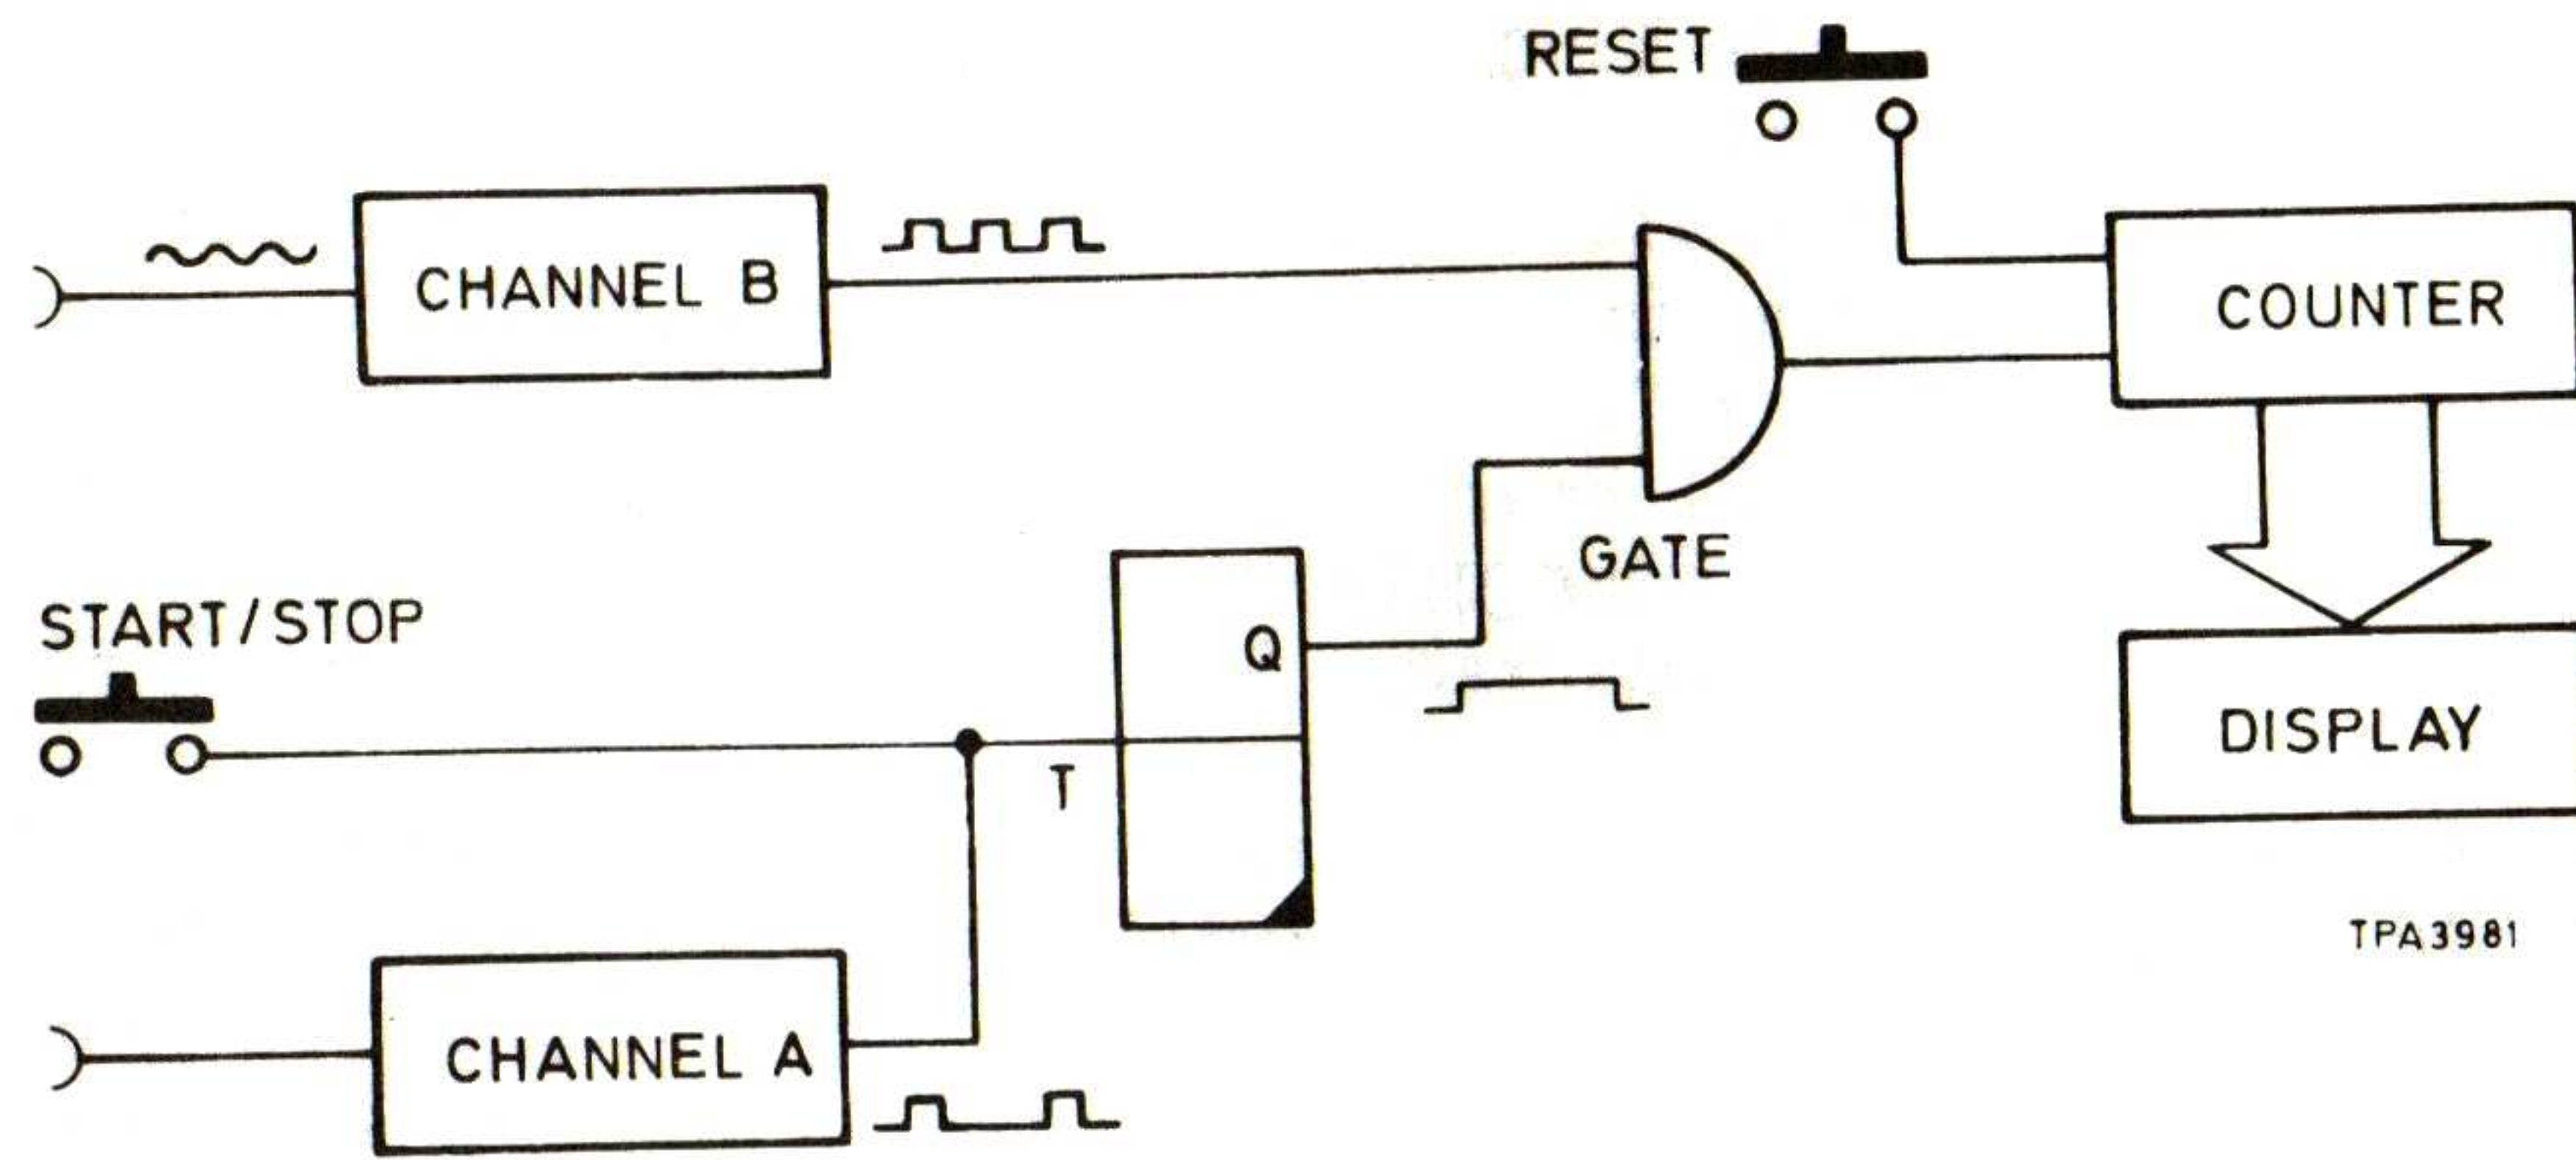

Fig. 1 COUNT B mode
2. In the COUNT B mode, see Fig. 1, input A or the START/stop button toggles a bistable circuit which opens and closes the gate to allow a train of pulses from the channel B input to enter the counting stages. Subsequent pulse trains may be admitted to the counting stages by further opening and closing of the gate. The total count of channel B pulses is displayed until the counter is manually reset.